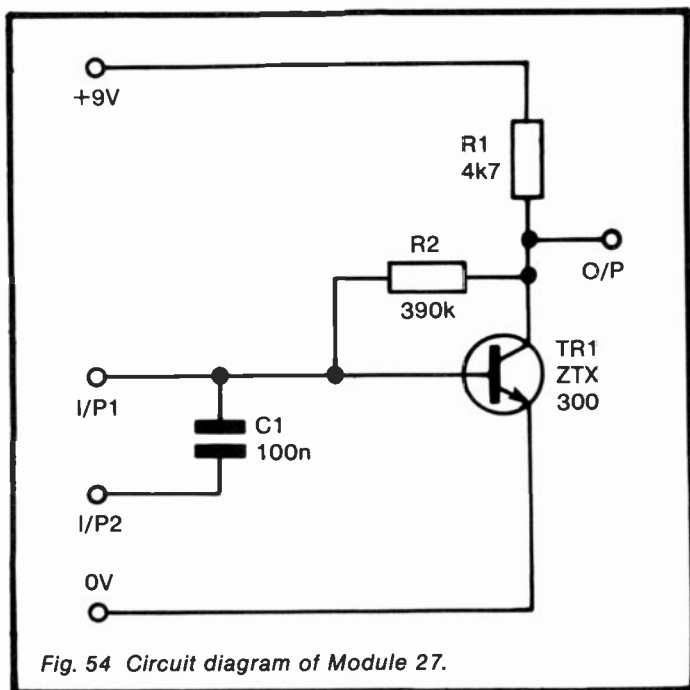

Fig. 54 Circuit diagram of Module 27.
**Circuit diagram:** see Figure 54.